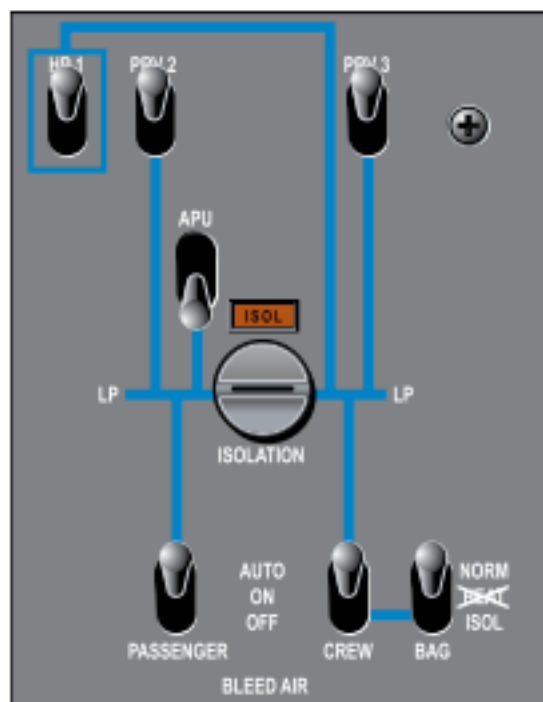

Figure EP-4. Bleed-Air Panel
2. Isolation Valve Knob (Figure EP-4)..... ISOLATION